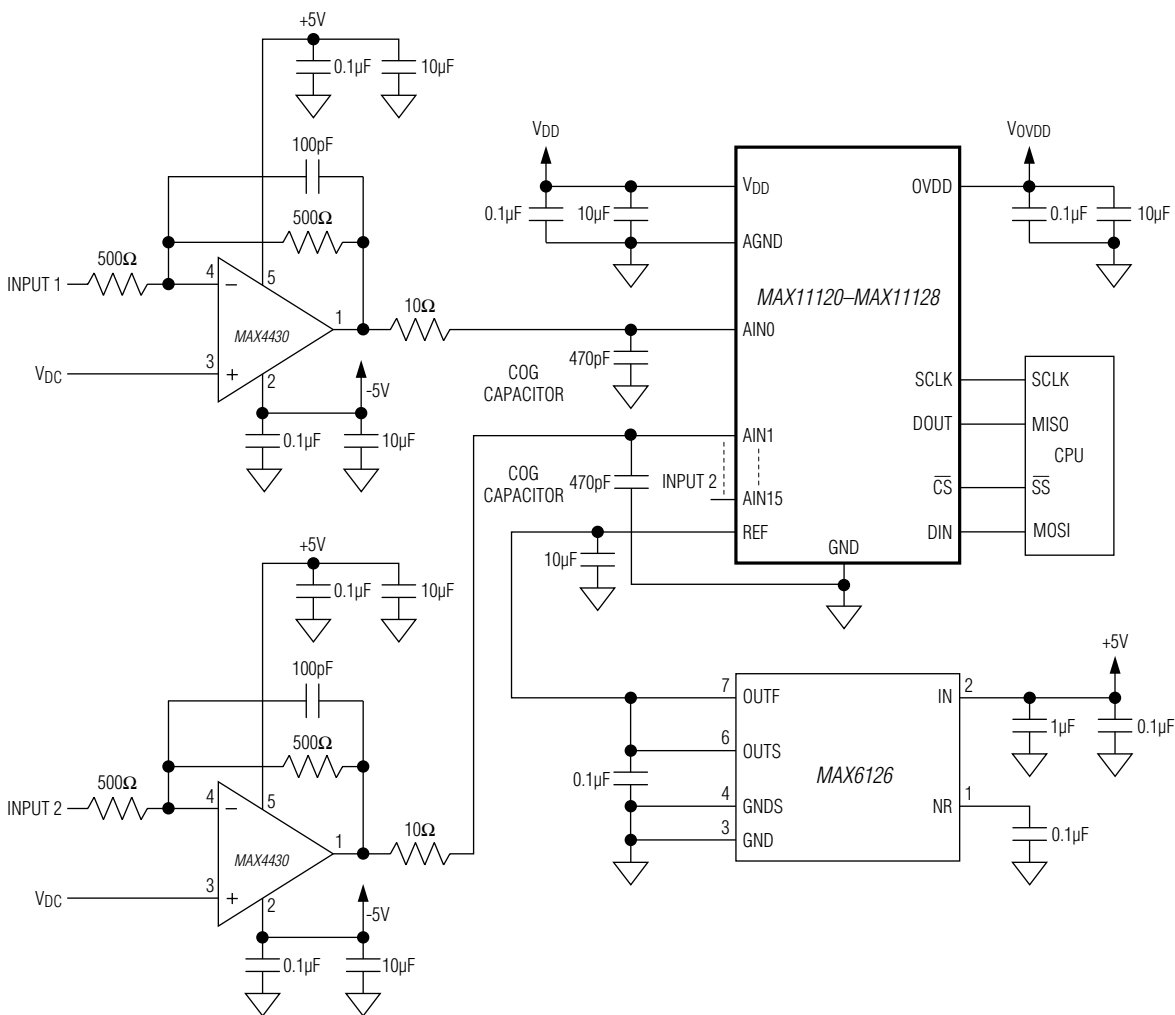

Figure 13. Typical Application Circuit
It is important to match the settling time of the input amplifier to the acquisition time of the ADC. The conversion results are accurate when the ADC samples the input signal for an interval longer than the input signal's worst-case settling time. By definition, settling time is the interval between the application of an input voltage step and the point at which the output signal reaches and stays within a given error band centered on the resulting steady-state amplifier output level. The ADC input sampling capacitor charges during the sampling cycle, referred to as the acquisition period. During this acquisition period, the settling time is affected by the input resistance and the input sampling capacitance. This error can be estimated by looking at the settling of an RC time constant using the input capacitance and the source impedance over the acquisition time period. Figure 13 shows a typical application circuit. The MAX4430, offering a settling time of 37ns at 16-bit resolution, is an excellent choice for this application. See the THD vs. Input Resistance graph in the Typical Operating Characteristics.
- Noise. The MAX6033 and MAX6043 are also excellent reference choices (Figure 13).